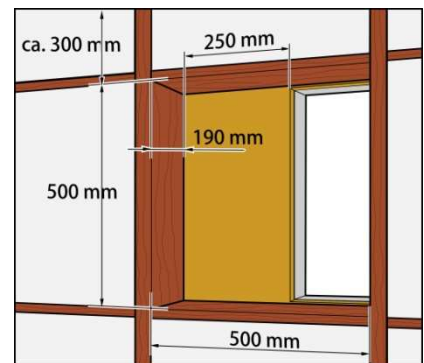

Abb. 1
- Construct the wall break through according to the Abb.1